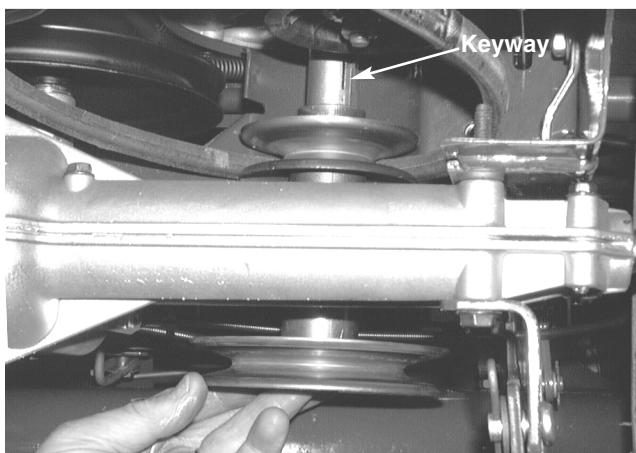

FIGURE 6.
- 5). Lower the engine pulley from the rider. See figure 6.